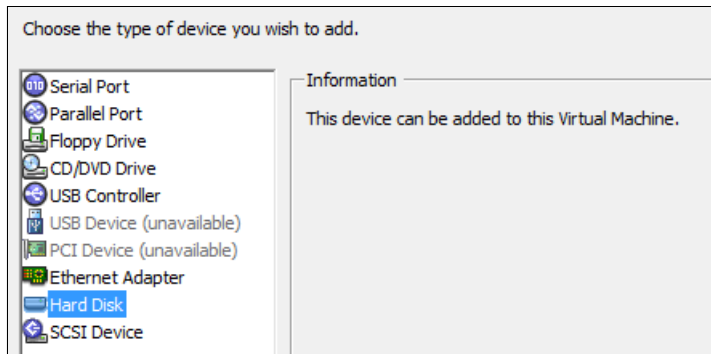

Figure 7-27 Add Hard Disk
3. From the list of devices in Figure 7-27, select **Hard Disk**.